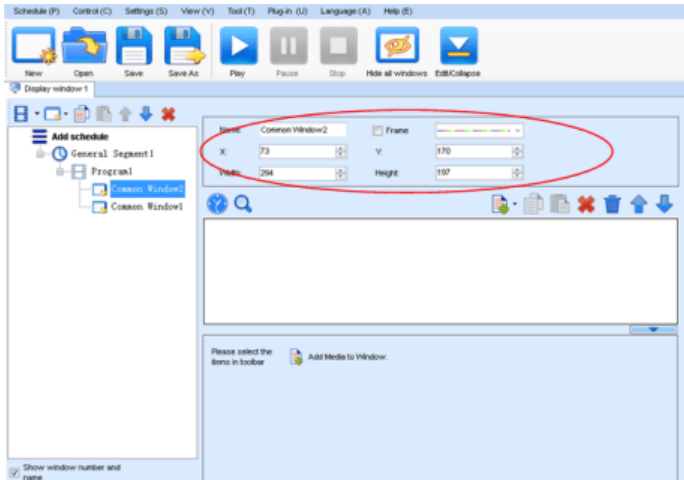

Figure 4-13 Setting the Window Size
- Directly specify the new location and size in the setting pane, as shown in Figure 4-13: